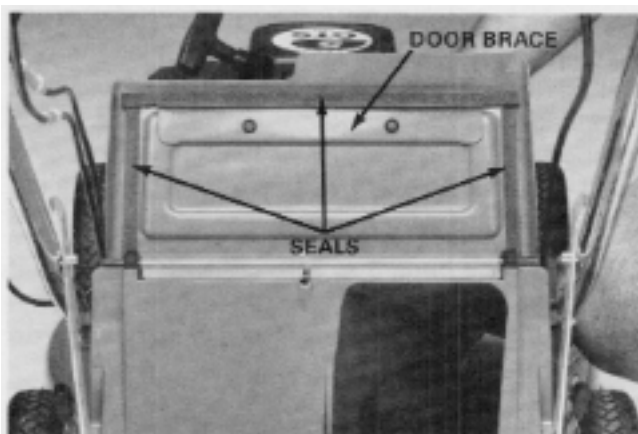

Figure 132
1. If necessary, install new seals along the side and bottom of the bag door. See Figure 132.
2. Place the door brace into position, flanged side down or away from the hinge and secure to the handle using the two flanged head screws as shown in Figure 132.